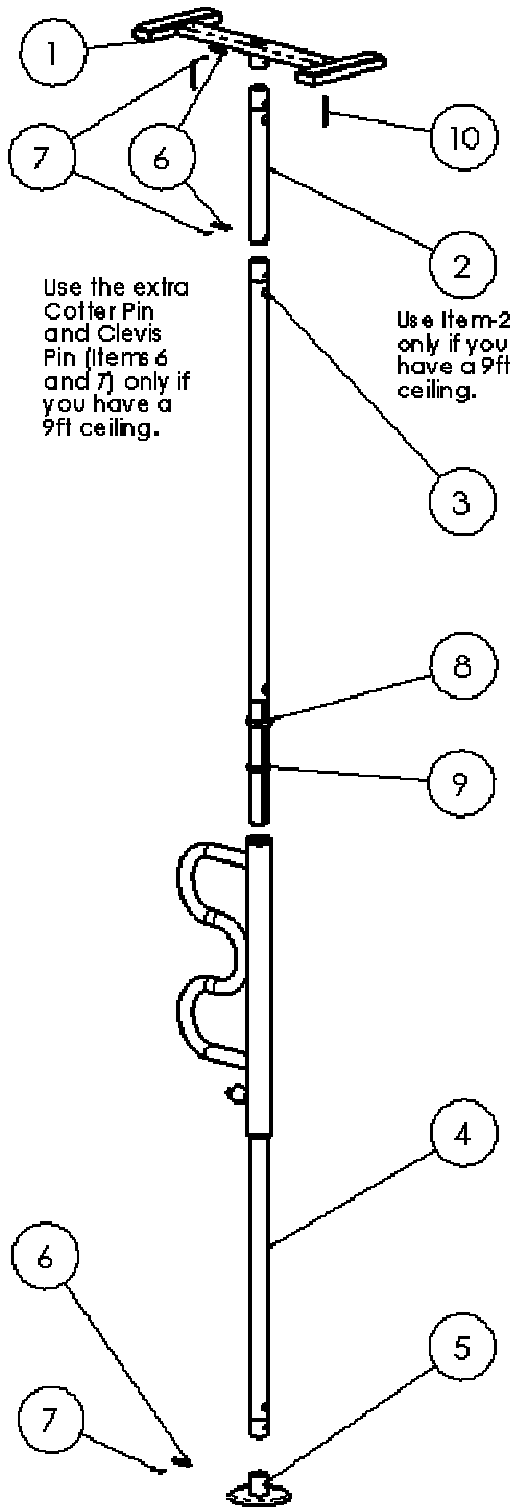
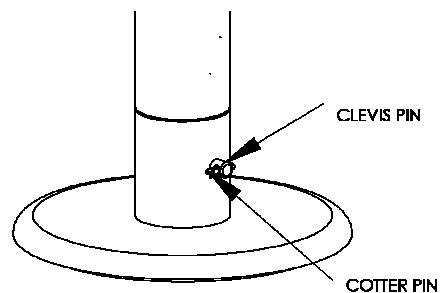

FIGURE 1
FIGURE 3
1. Take all parts out of the box and lay them on a flat surface as shown in Figure 1.
6. Attach ITEM-5 to ITEM-4 (as shown in Figure 1) by aligning the holes in ITEM-4 and ITEM-5 and insert the Clevis Pin (ITEM-6) through the holes as shown in Figure 3.
7. After inserting the Clevis Pin (ITEM-6) through the holes, insert the Cotter Pin (ITEM 7) through the Clevis Pin hole and bend one end of the Cotter Pin to secure the Clevis Pin (as shown in Figure 3).
9. In order to secure the Safety Pole between the floor and the ceiling, the Adjustment Nut (ITEM-8) must be tightened in a clockwise direction with the included wrench (Item not shown). Make sure the Adjustment Washer (ITEM-9) is located below the Adjustment Nut (ITEM-8) as shown in Figure 1.